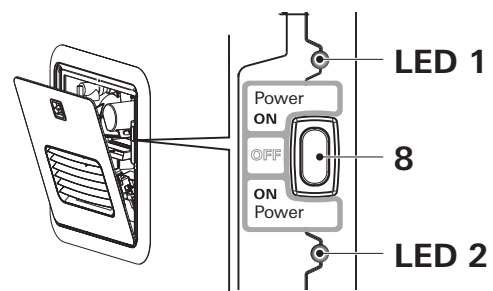

Fig. 8
2. To switch on the appliance, switch the POWER switch (Fig. 8 – 8) to one of the two "ON" positions.
- When the green power ON LED 1 (Fig. 8 – LED 1) is lit, the appliance is switched on.
- If the red error code LED 2 (Fig. 8 – LED 2) is lit / flashes, there is a fault or warning. (refer to "APPENDIX A – Error Codes" on Page 27).
- Switch off the appliance at the POWER switch (Fig. 8).
- The green Power-ON LED 1 (Fig. 8) extinguishes.